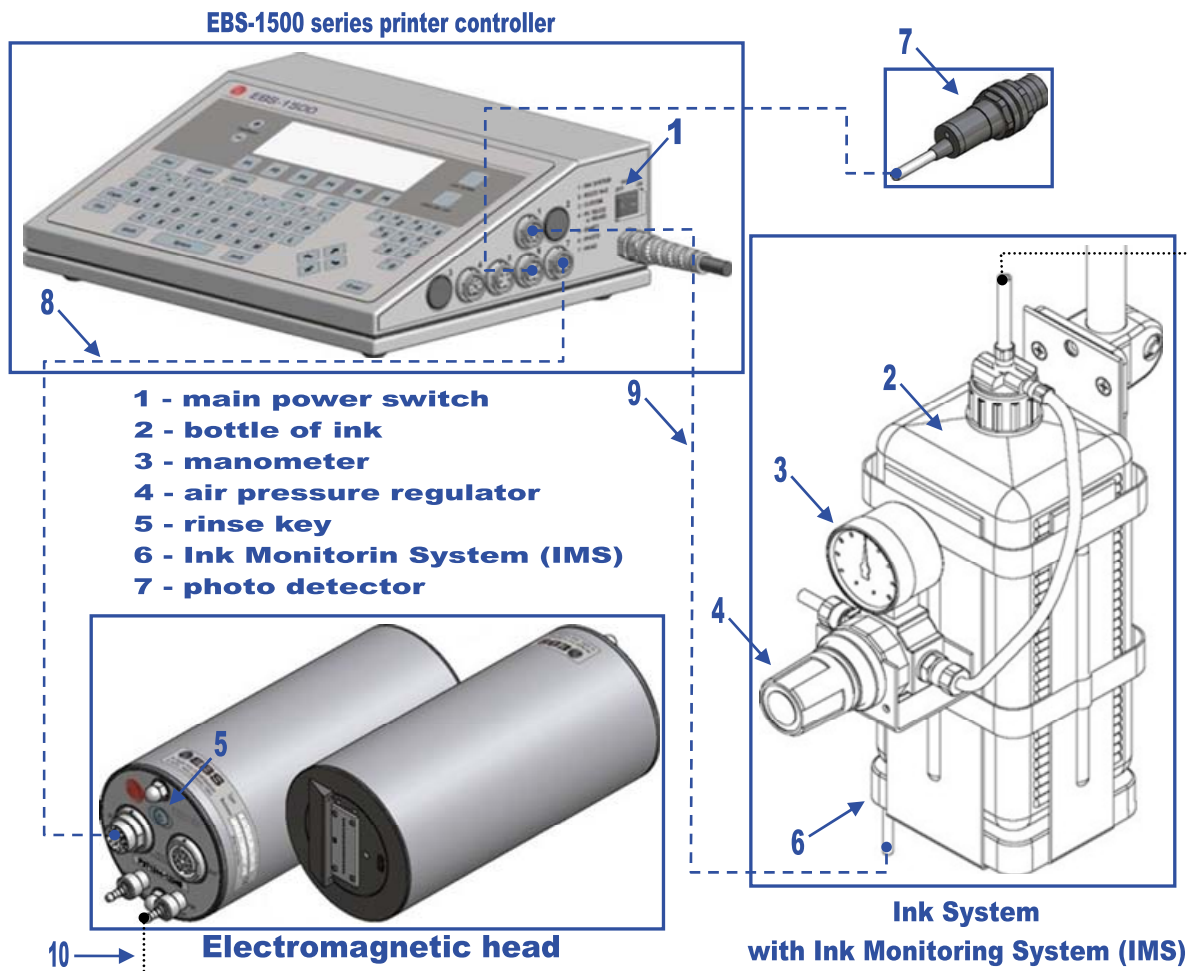

Fig. 2.1
Major components of the printer with a single electromagnetic head are shown in **Fig. 2.1**.
In addition, the printing system may contain many other subassemblies such as a shaft-encoder, assembly jigs and tubes, cables (e.g. a cable to connect the printer controller with the head – see item 8 in **Fig. 2.1**, IMS signal cable – see item 9 in **Fig. 2.1**), ink tubes – e.g. item 10 in **Fig. 2.1**, an additional external signalling device and many others. For more details refer to section *Installation of the Printer* in *The EBS-1500 Printer User's Manual*.
The compressed air pressure is adjusted with a regulator (item 4 in **Fig. 2.1**). After preliminary settings of the print parameters have been made (see section **4.5 Setting Print Parameters**) adjust the pressure so that the optimum print quality is ensured (changes in pressure result in changes in the size of ink drops in your print). Ink consumption increases along with pressure increase. If the pressure setting is too high, the print may be distorted (e.g. the print intensity may be too high, ink splashes may occur around the print, neighbouring drops may overlap).
The **ON/OFF** power switch is situated on the right side wall of the unit next to the feeder cable. It isolates both power leads from the mains (see item 1 in **Fig. 2.1**).